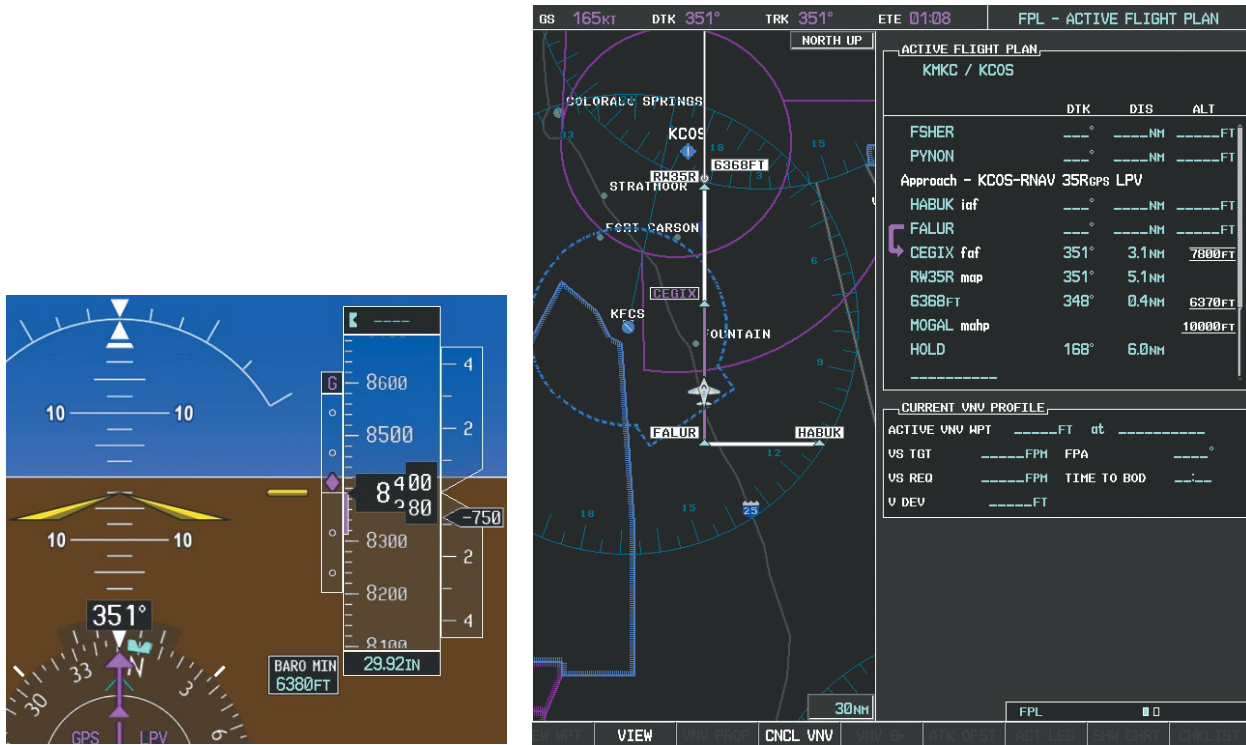

Figure 5-140 Descending to the FAF
23) After crossing FALUR the next waypoint is the FAF. The flight phase changes to LPV on the HSI indicating the current phase of flight is in Approach Mode and the approach type is LPV. CDI scaling changes accordingly and is used much like a localizer when flying an ILS approach. The RVSI is no longer displayed and the VDI changes to the Glidepath Indicator (as shown in Figure 5-140) when the final approach course becomes active.
The descent continues through the FAF (CEGIX) using the Glidepath Indicator, as one would use a glideslope indicator, to obtain an altitude "AT" 7,800 feet at the FAF. Note the altitude restriction lines over and under (At) the altitude in the 'ALT' field in Figure 5-140.